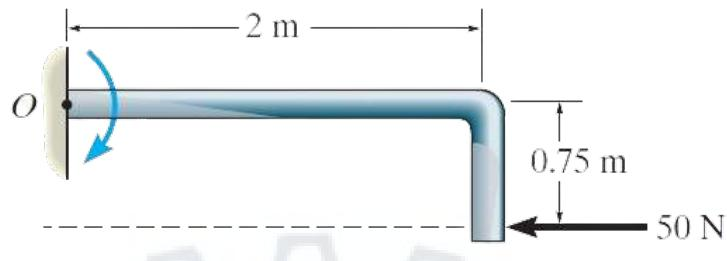

Figure 2
3. Find the resultant moment at a point  $O$  shown in Figure 2.